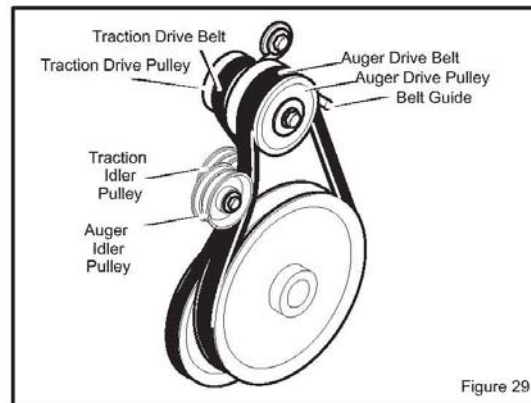

Figure 29
3. Loosen nut on auger idler pulley and move auger idler pulley towards belt about 1/8 inch (3 mm) (see Figure 29).
AUGER DRIVE BELT (SEE FIGURE 29)
6. Loosen belt guide and pull away from auger drive pulley. See Figure 29.
7. Loosen belt guide and pull away from auger drive pulley. See Figure 29.